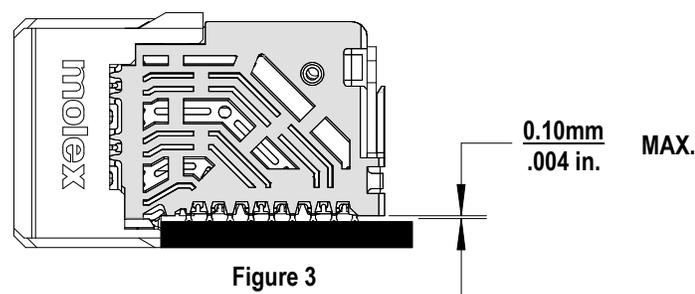

Figure 3
3. Using the application tool and an appropriate press, seat the Daughtercard module until there is less than 0.10mm (.004 in) clearance between the bottom of the plastic housing and the surface of the PCB. See Figure 3.